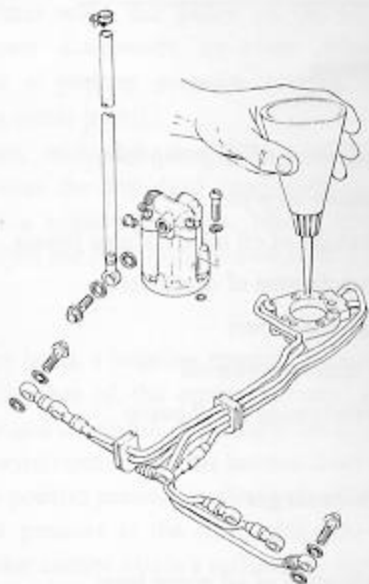

Fig. 6-16 Expelling air in oil pipes
Expel air (Refer to Fig. 6-16)
- b) For a large amount of air; The oil pump is dismantled and as shown in Fig. 6-16, oil is filled up from an inlet to exhaust air. It is to be noted that a check valve is fitted